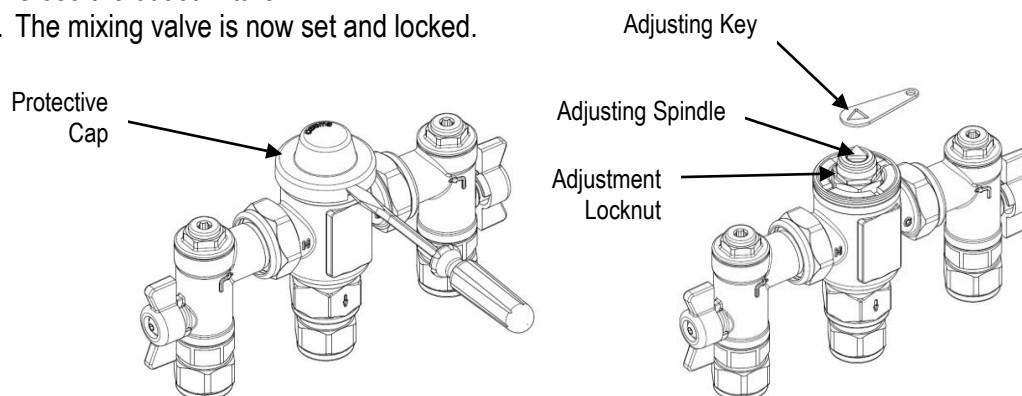

Figure 4: Adjusting the Mixed Water Temperature
1. Using a small, flat bladed screwdriver, carefully lever the Protective Cap off the valve (figure 4).
3. Fit the supplied Adjusting Key over the adjusting spindle (figure 4)